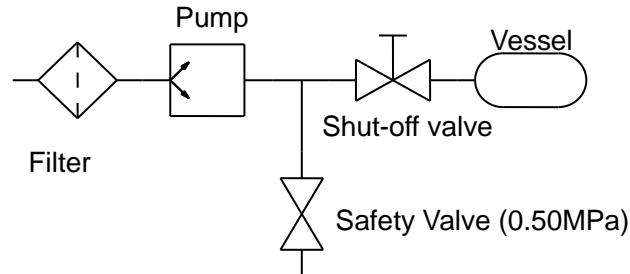

Fig.3.3 Example of Piping Used When Pressurizing a Vessel
- 5) Install the protection instrument such as safety valves about piping like Figure 3.3 between the exhaust tube and the container of the pump.